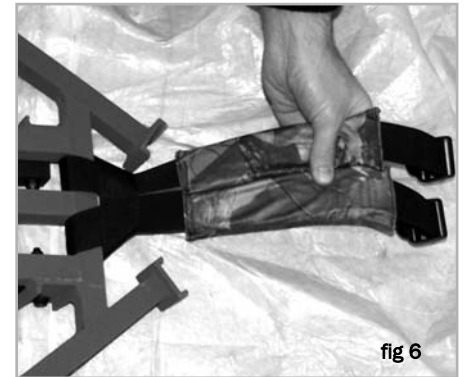

fig 6
Step 5: Pull on BACKPACK STRAPS so loop cinches down onto PLATFORM (fig 6).